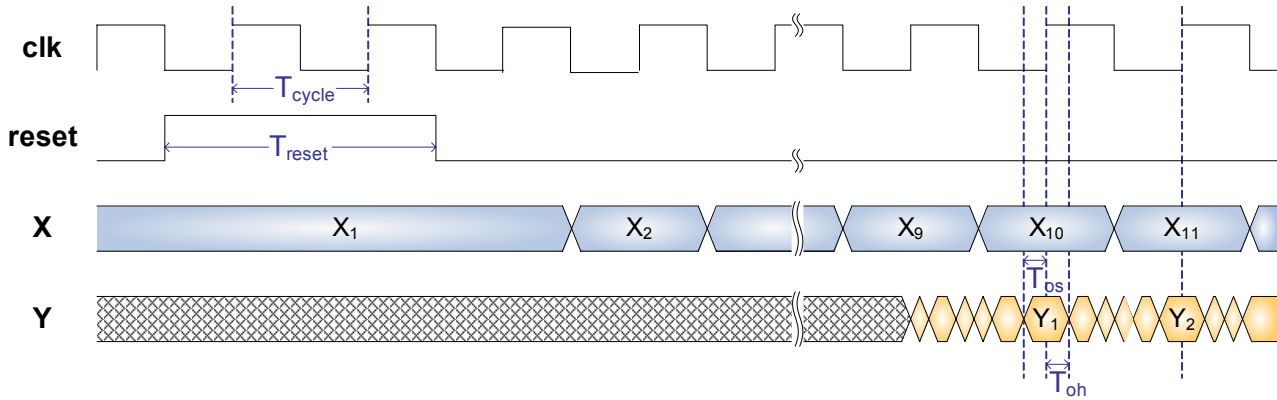

Fig. 2 I/O Timing Diagram
The I/O timing diagram is as shown in Fig. 2. **For this contest, n in equations (1)-(4) are**